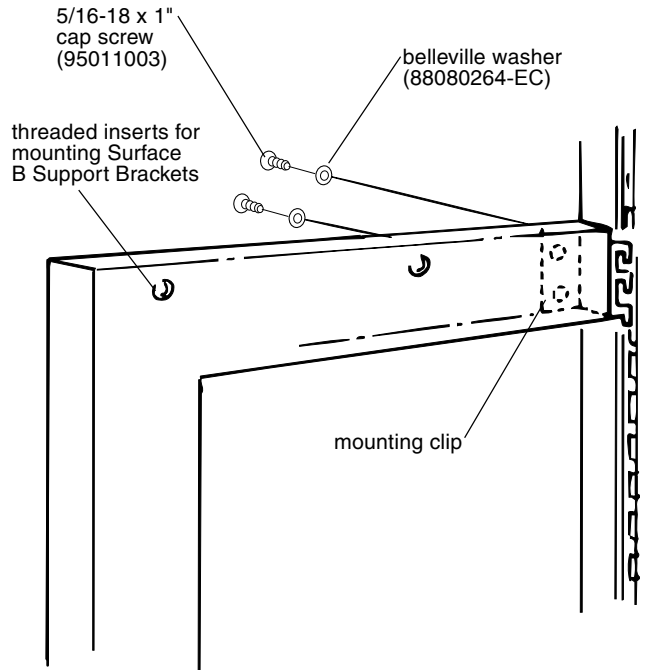

Figure 2
3. Position second clip at the top back side of the leg. Install into the slotted hanger frame with the tab's going down. Fasten clip to leg with two bellville washers - concave side down and 5/16" cap screws. **IMPORTANT - DO NOT tighten screws more than 200 in-lbs.** (Figure 2)